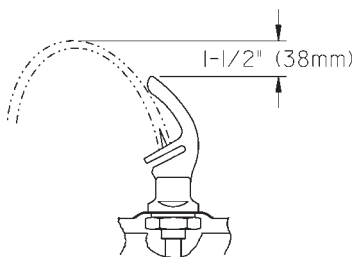

FIG. 5
11. Open service stop and operate push button to purge air. Check thoroughly for leaks. Check stream height from bubbler. Stream height is factory set at 35-40 PSI. If supply pressure varies greatly from this, remove items 23 & 24 and adjust the screw on regulator (Item 20). Clockwise adjustment will raise stream height and counter-clockwise will lower stream height. For best adjustment stream height should be approximately 1-1/2" (38mm) above the bubbler guard. (See Fig. 5)